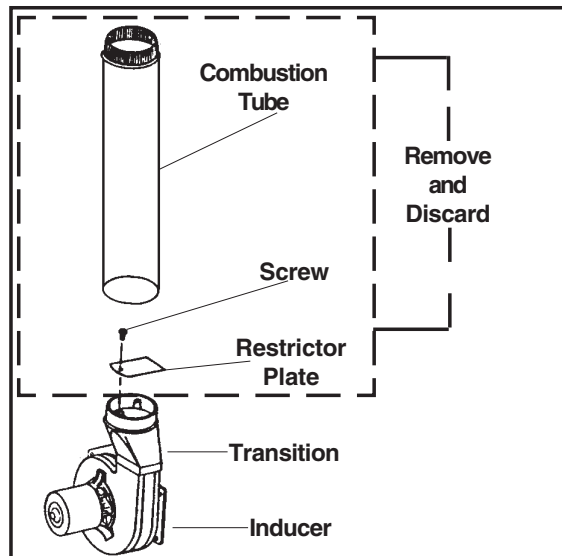

Figure 18. *TK Horizontal Vent Modification
3. To gain access to the restrictor plate, remove and discard the combustion tube from the transition assembly. **Insure the seal between inducer and transition assembly is not broken.** (See Figure 18.)
4. Remove and discard the restrictor plate and screw from the transition assembly. (See Figure 18.)